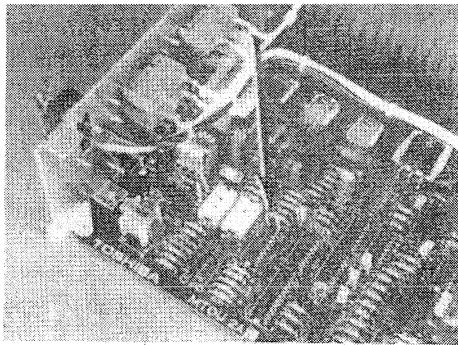

FIGURE 4
- Night relay service—the optional NR relay, if installed, will provide a dry contact at the NR terminals on the front of the MTOU PCB. The W3 strap option (Figure 4) on the MTOU allows the NR relay to function in one of two modes.